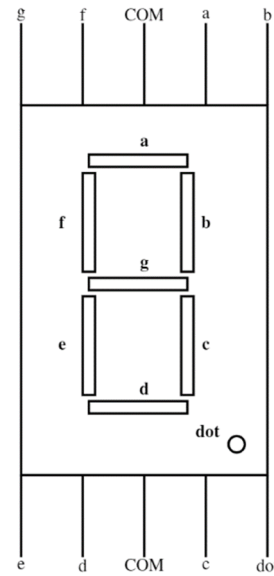
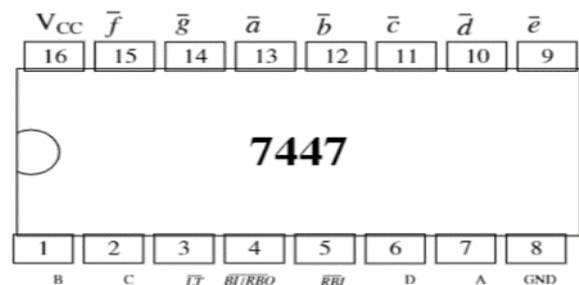

Figure 1: Seven Segment Display
Figure 2: Pin Diagram of 7447 IC
- 1) Make connections between the seven segment display in Fig 1 and the 7447 IC in Fig 2 as shown in Table I